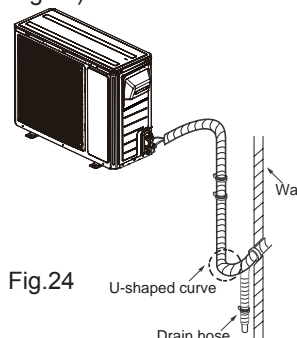

Fig.24
- (1) The pipes should be placed along the wall, bent reasonably and hidden possibly. Min. semidiameter of bending the pipe is 4inch.
- (2) If the outdoor unit is higher than the wall hole, you must set a U-shaped curve in the pipe before pipe goes into the room, in order to prevent rain from getting into the room.(As show in Fig.24)